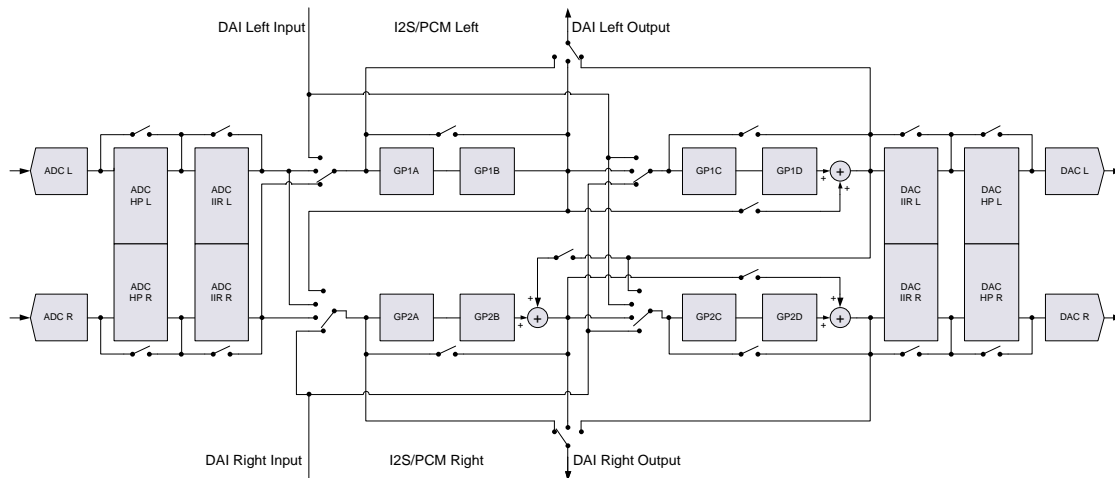

Figure 15: Digital signal processing engine (simplified block diagram)
A digital high pass filter for each DAC channel is implemented (configurable by control DAC_HPF_F0 (address 0x14, Table 56) that can be enabled via control DAC_HPF_EN (address 0x14, Table 56, see blocks ‘DAC HP’ in Figure 15). After Reset, the high pass filters for both channels are enabled by default.
The digital signal processing engine includes a configurable audio processor that offers flexible routing and extensive audio enhancement and effects. Linear phase FIR filters perform the interpolation and decimation for the required sigma-delta sample rates. Configurable high-pass filtering (optionally enabled) removes any signal DC offset (see blocks 'ADC HP' and 'DAC HP' in Figure 15) and offers 5-band equalisation during recording and sound playback.
Alternatively it can provide dedicated voice band filtering at samples rates ≤ 16 kHz (see blocks 'ADC IIR' and 'DAC IIR' in Figure 15).
An additional general purpose (GP) filter engine offers up to eight second-order biquad filter stages with configurable 16-bit coefficients, and supports flexible digital audio routing and mixing arrangements. Figure 15 shows some possible routings (a subset of the available settings) for filter blocks GP1A to GP2D with the related control registers. Typical use cases with example configurations are explained in the section 8.3.
To allow user-specific sound control, the recording path includes a programmable 5-band equaliser (combined in the ADC IIR blocks in Figure 15). This is enabled using control ADC_EQ_EN (address 0x13, Table 55).